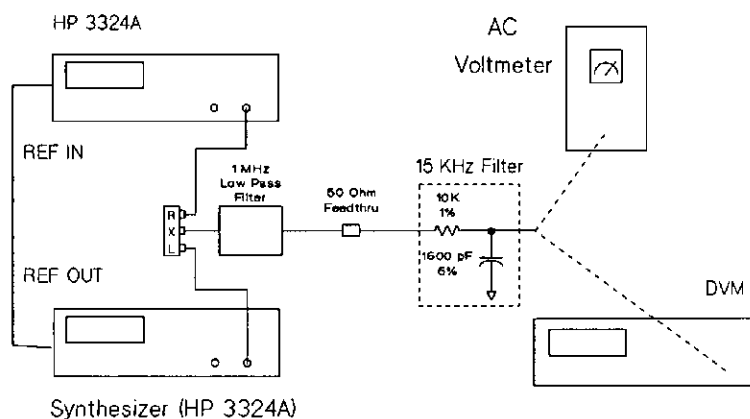

Figure 12-3. Integrated Phase Noise Test Set-Up
1. Connect the equipment as shown in Figure 12-3, connecting the 15 KHz noise equivalent filter output to the AC voltmeter. Phase lock the HP 3324A and the signal generator together.